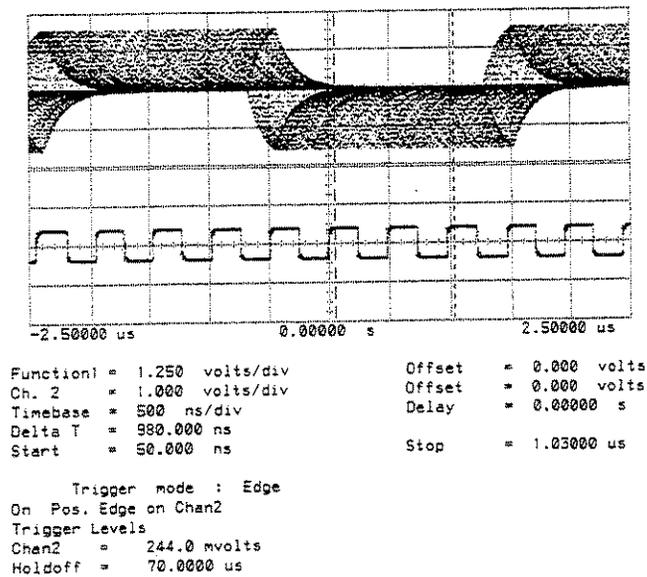

Figure 8-34 4UI p-p Jitter
- Decrease the level of jitter until the signal on the oscilloscope display is as shown in Figure 8-34.